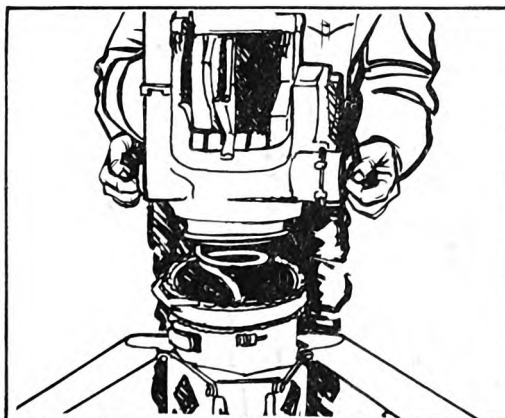

Figure 6. Install traversing unit.
- a. Pick the traversing unit up by the two control knobs and set it on the tripod (figure 6).